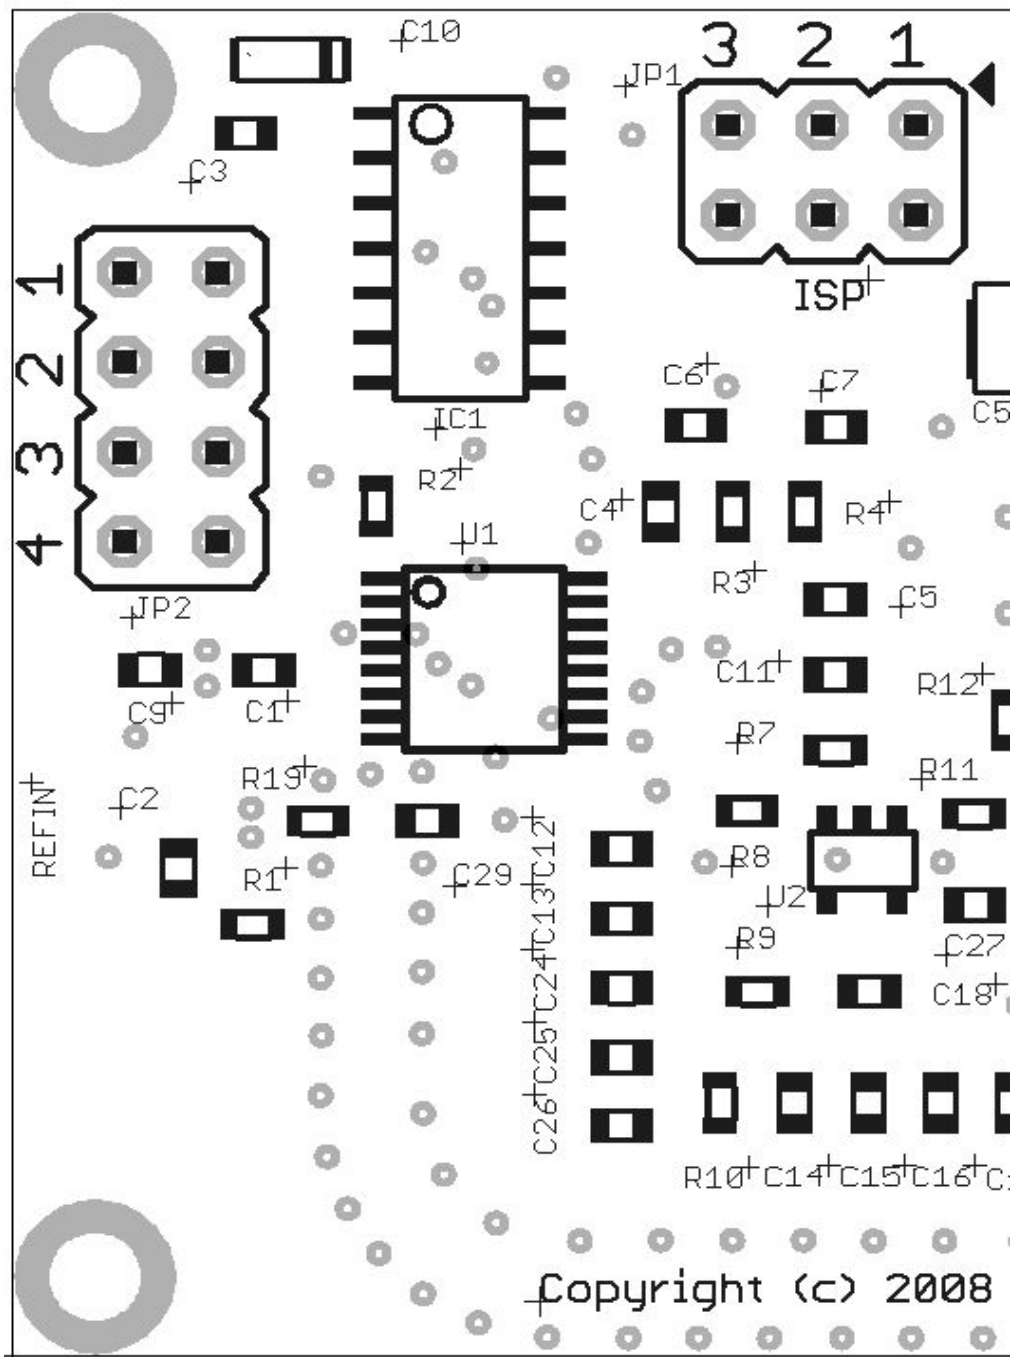

Figure 1
Opening the Model 2808-ALN to change Reference Frequency Options is accomplished by removing the six (6) 0-80 Phillips head screws from the top cover. These screws are very small so put them in a safe place until time to put them back. After the cover is opened, you will notice there are (4) four jumper options (JP2) in the upper left corner next to the reference-input port. *See figure 1 below*. There is only one jumper shunt included with the unit as shipped, and jumper positions 1,2 and 3 are not used on the Model 2808-ALN.
Remember the “**O**” is for **OPEN** (no jumper installed), and “**S**” is for **SHORTED** (jumper installed). The jumper layout is shown in Figure 1. Changing a jumper will automatically select the new reference frequency option and will not require the unit to be power cycled.